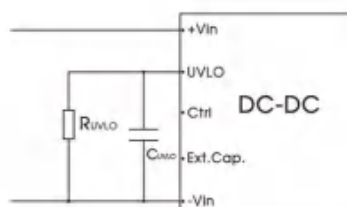

Fig.9
- The UVLO pin can adjust the point of input under-voltage protection by the external resistance RUVLO. Please refer to Fig.9 for the value of RUVLO, if the pin is left open, the under-voltage protection point is 11V.
3. Resistor RUVLO is used to adjust the input under-voltage protection point. Refer to Figure 9 for the value.